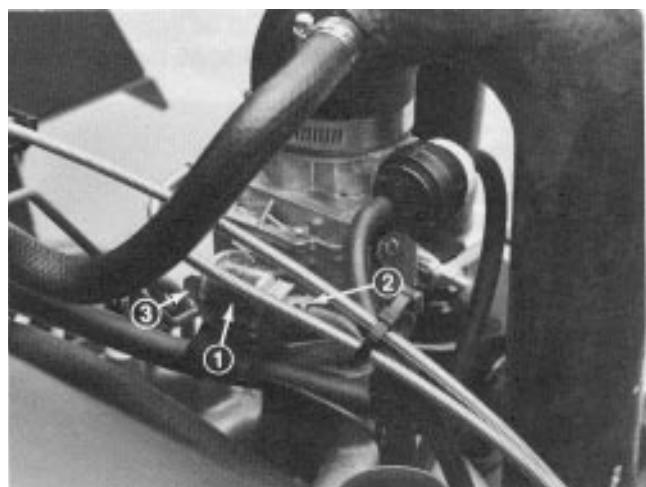

Figure 35
1. Disconnect elbow fitting from rear of fuel filter (Fig. 35).
2. Disconnect front of filter from elbow fitting (Fig. 35).